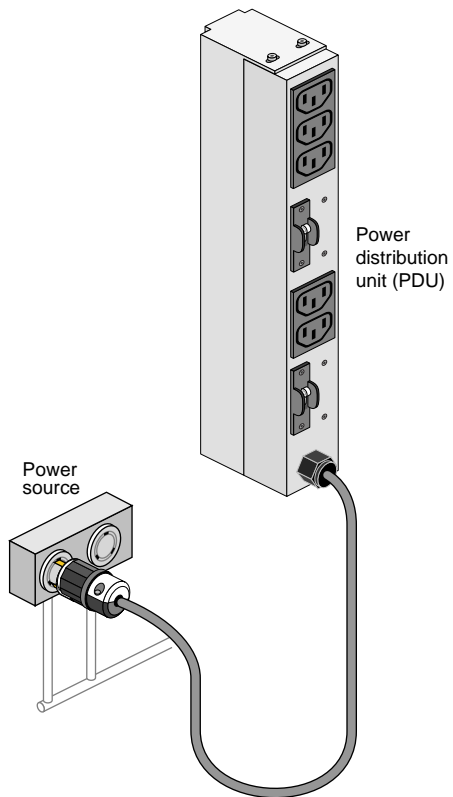
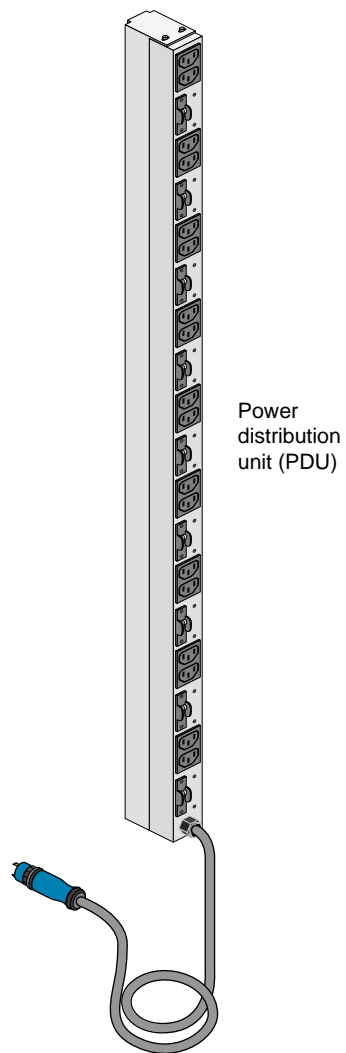

Figure 1-2 Single-Phase Rack PDU Circuit Breaker Switches
Figure 1-3 Three-Phase PDU Example
4. Make sure that all PDU circuit breaker switches (see the examples in Figure 1-2 and Figure 1-3) are turned on to provide power to the server system when the system is powered on.
Figure 1-3 shows an example of the three-phase PDU.